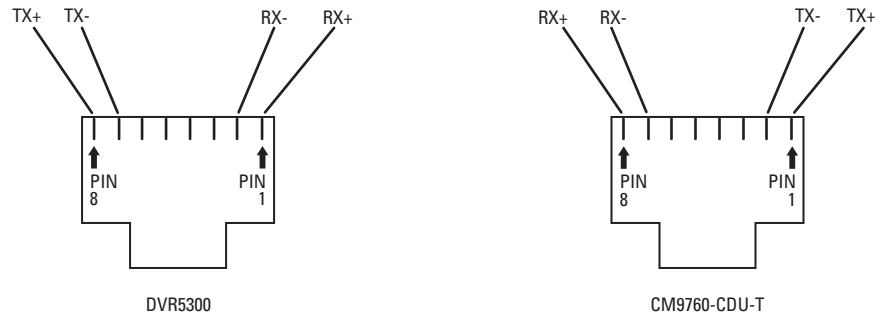

Figure 24. RJ-45 Pin Assignments to CM9760-CDU-T
- To create your own cable, refer to Table C and Figure 24 for the RJ-45 pin assignments for both the DVR5300 and the CM9760-CDU-T. The maximum cable length from the DVR5300 to the CDU is 4,000 feet (1,219 m).